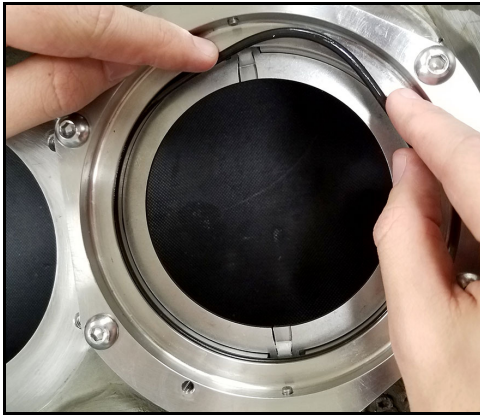

Figure 116 - Install seal O-ring
9. Install the lubricated stationary seal O-ring as shown in Figure 116.